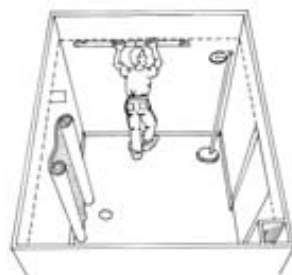

Figure 3.10
3.10 Draw another horizontal line, 1 metre long (the starting line), at a height of approx 200 – 207cm, depending on the vertical alignment of the corners (Figure 3.10).